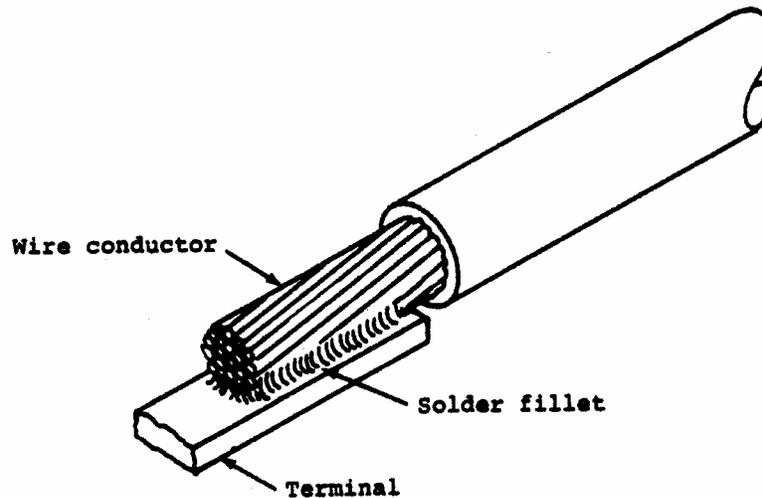

Figure 6-3. Heating Inspection
- A solder fillet is visible between the wire conductor and the terminal of the MTC50 insert (Figure 6-3).